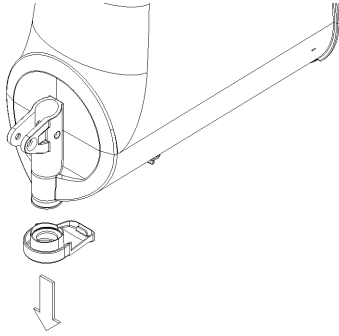

figure 12
- remove the flow restrictor from the container (see figure 12)
- 5 Remove the flow restrictor from the container (see figure 12).